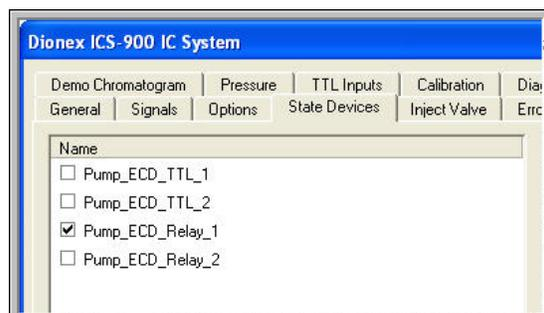

Figure 23. Dionex ICS-900 Properties: State Devices
- c. If an AS40 is installed, verify that Pump_ECD_Relay_1 is selected (see Figure 23).